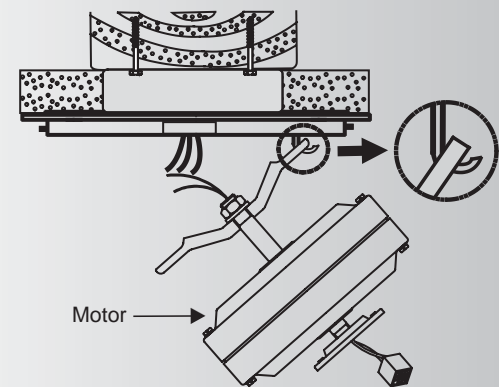

Fig. 5
Step 2. Lift fan into position by hanging the motor assembly onto the hook from the ceiling mounting plate allowing it to hang freely. (Fig. 5)